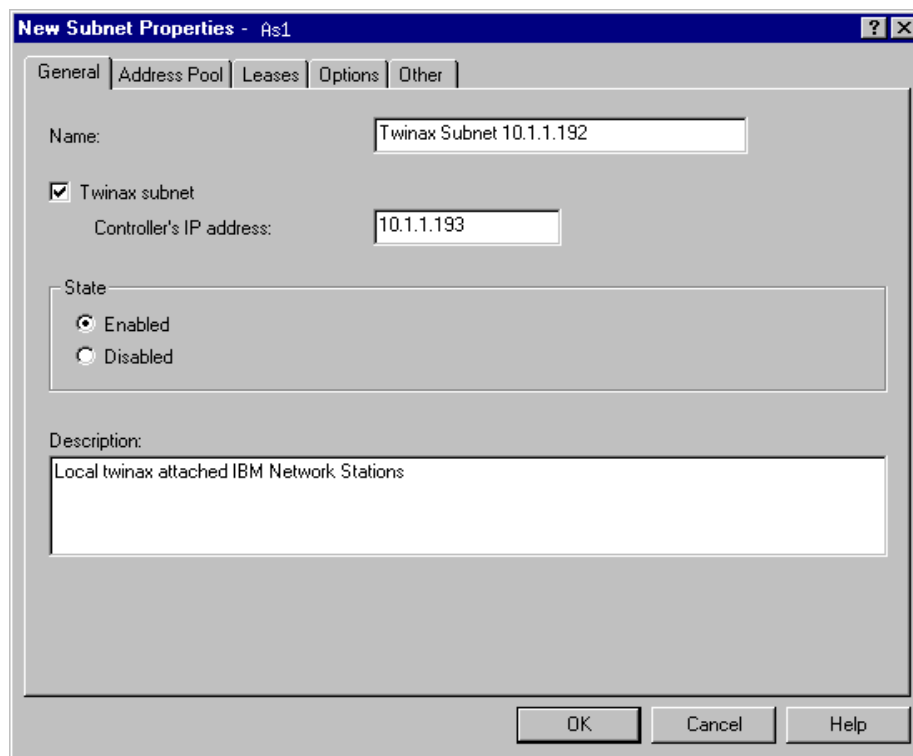

Figure 71. DHCP Server Configuration Twinax Subnet
8. As shown in Figure 71 on page 160, select the **General** tab. Specify **Twinax Subnet 10.1.1.192** in the *Name* field. Specify a network ID to make it easier to distinguish the twinax subnet from the other subnets.
11. Specify a short description in the *Description* field, as shown in Figure 71.